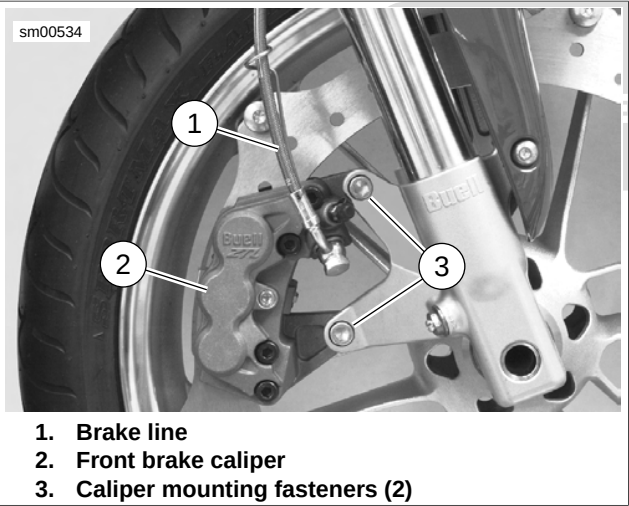

Figure 2-41. Front Brake Caliper Mounts (Typical)
- 3. See Figure 2-41. Disconnect brake line (1) at caliper (2). See 2.9 FRONT BRAKE LINE.
- 4. Remove caliper mounting fasteners (3).